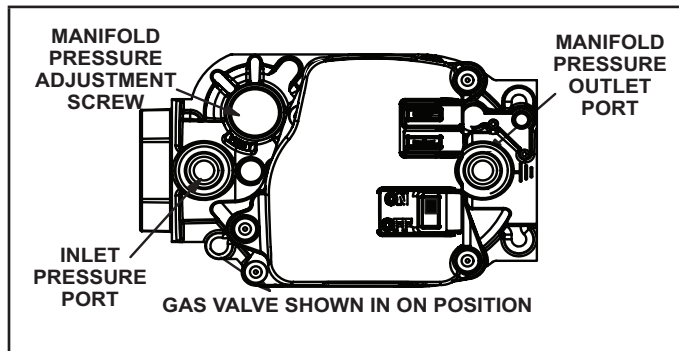

FIGURE 19
- 6 - Move gas valve switch to OFF position. Do not force. See figure 19.
- 8 - Move gas valve switch to ON position. Do not force. See figure 19.
- 4 - Move gas valve switch to OFF position. Do not force. See figure 19.